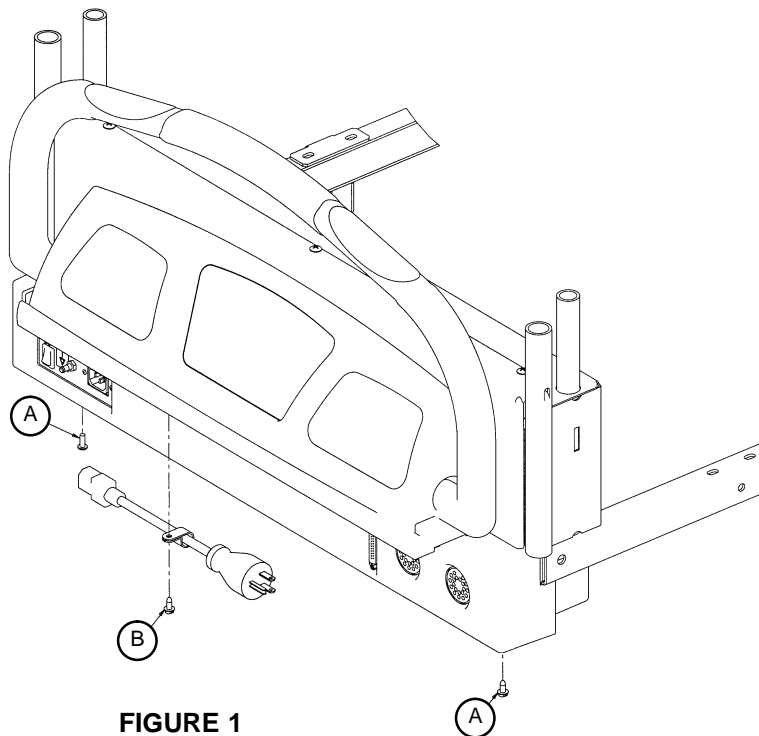

FIGURE 1
4. Using a #2 Phillips screwdriver, remove the two screws (A) holding the plastic cover over the nurse call port at the head end (see Figure 1).
5. Using a 5/16" nut driver, remove the screw (B) holding the power cord clamp to the bumper weldment and remove the clamp from the bumper.